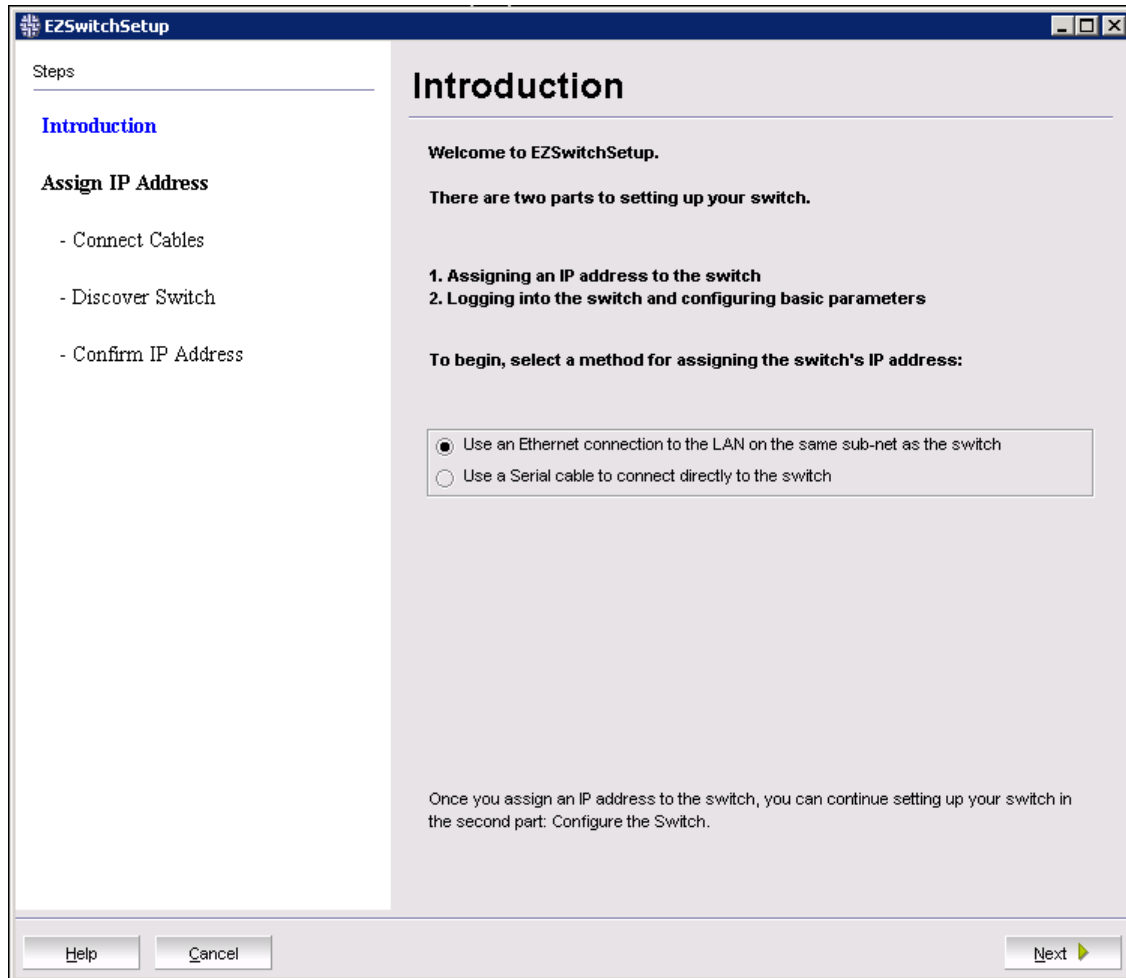
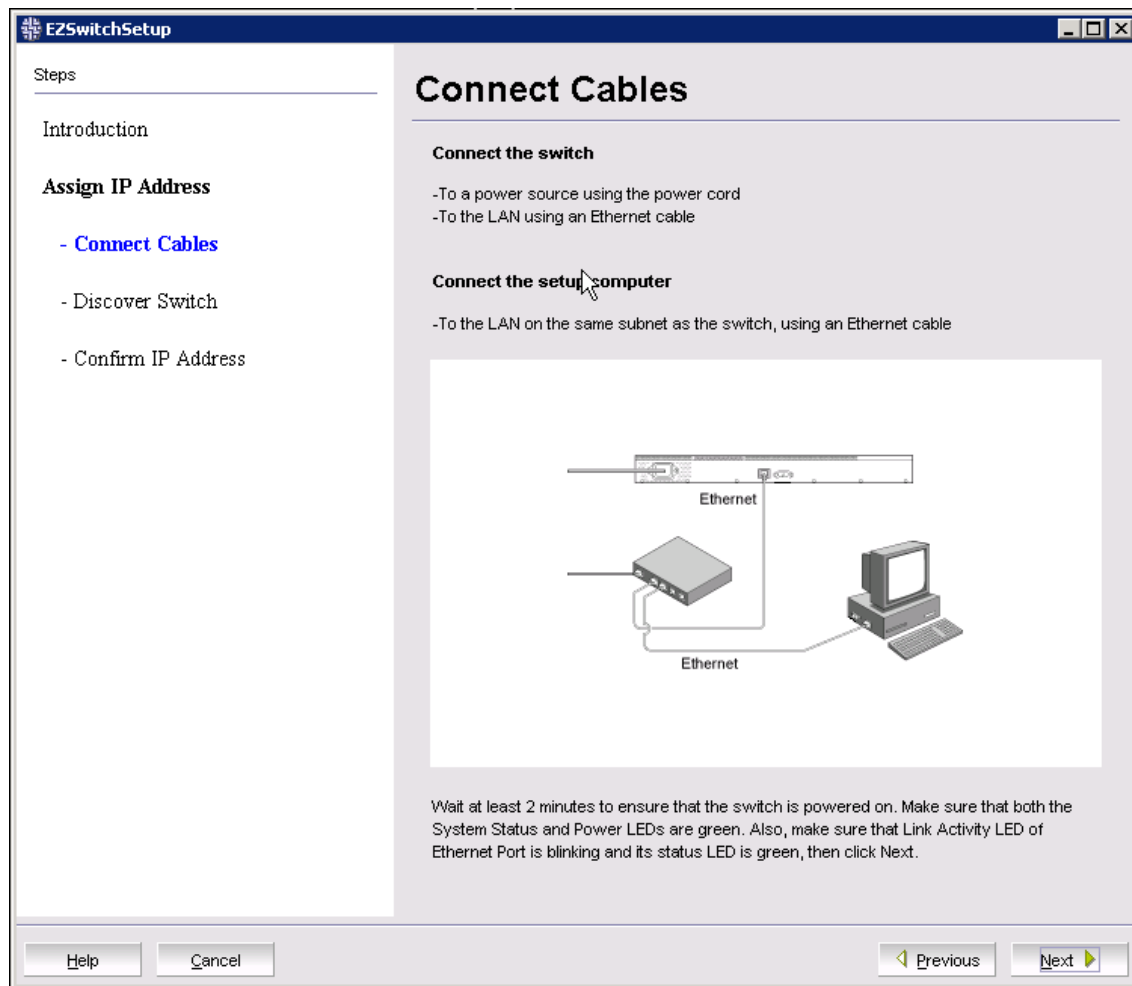

Figure 6-6 EZSwitchSetup - Introduction
Figure 6-7 EZSwitchSetup - Connect Cables
2. Following the instructions, as shown in Figure 6-6 and Figure 6-7, connect the power cord to the switch, the Ethernet cable between the mobile computer and switch, and the serial cable from your mobile computer to the switch. Wait for the switch to turn on fully before continuing. It can take up to 3 minutes for the switch to be in a ready state with both the System Status and Power LEDs green.